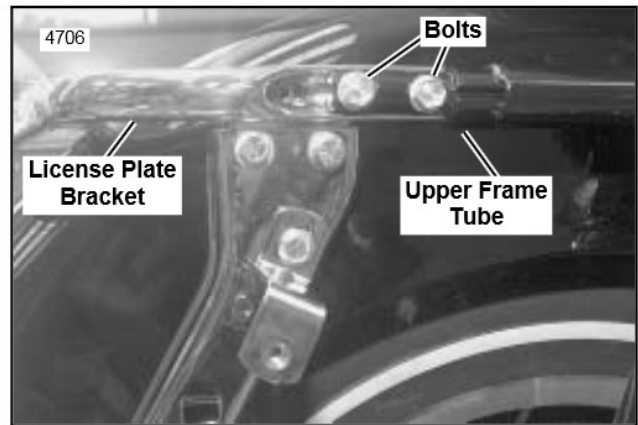

Figure 5. Remove Frame Tube/License Plate Bracket Bolts
15. See Figure 5. Install two bolts (1-1/4 inches) to secure upper frame tube to luggage rack.